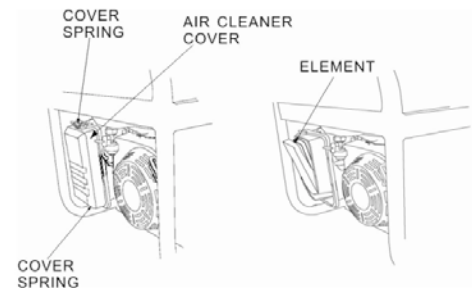

Figure 14 - Removing the Air Filter Casing.
1. Unhinge the clasps at the top and bottom of the air filter cover as shown in Figure 14.